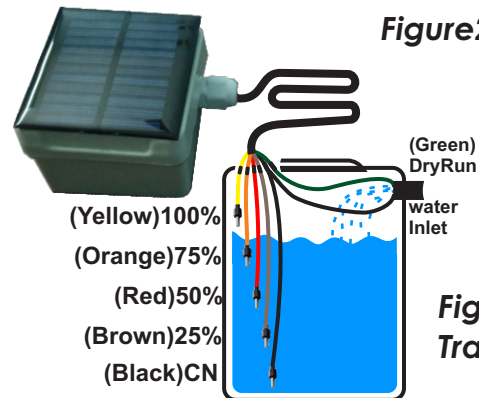

Figure 4: Transmitter
Step 7: Now power off the controller unit. **Contact type sensor connection:** Take the sensors and cut them according to the levels of the tank and join them with the sensors lines of transmitter as per color coding. (Refer figure 4). **Magnetic float sensor connection:** These sensors has 2 wires. Use any one wire in each sensor as common. Other wire left in each can be used for levels.